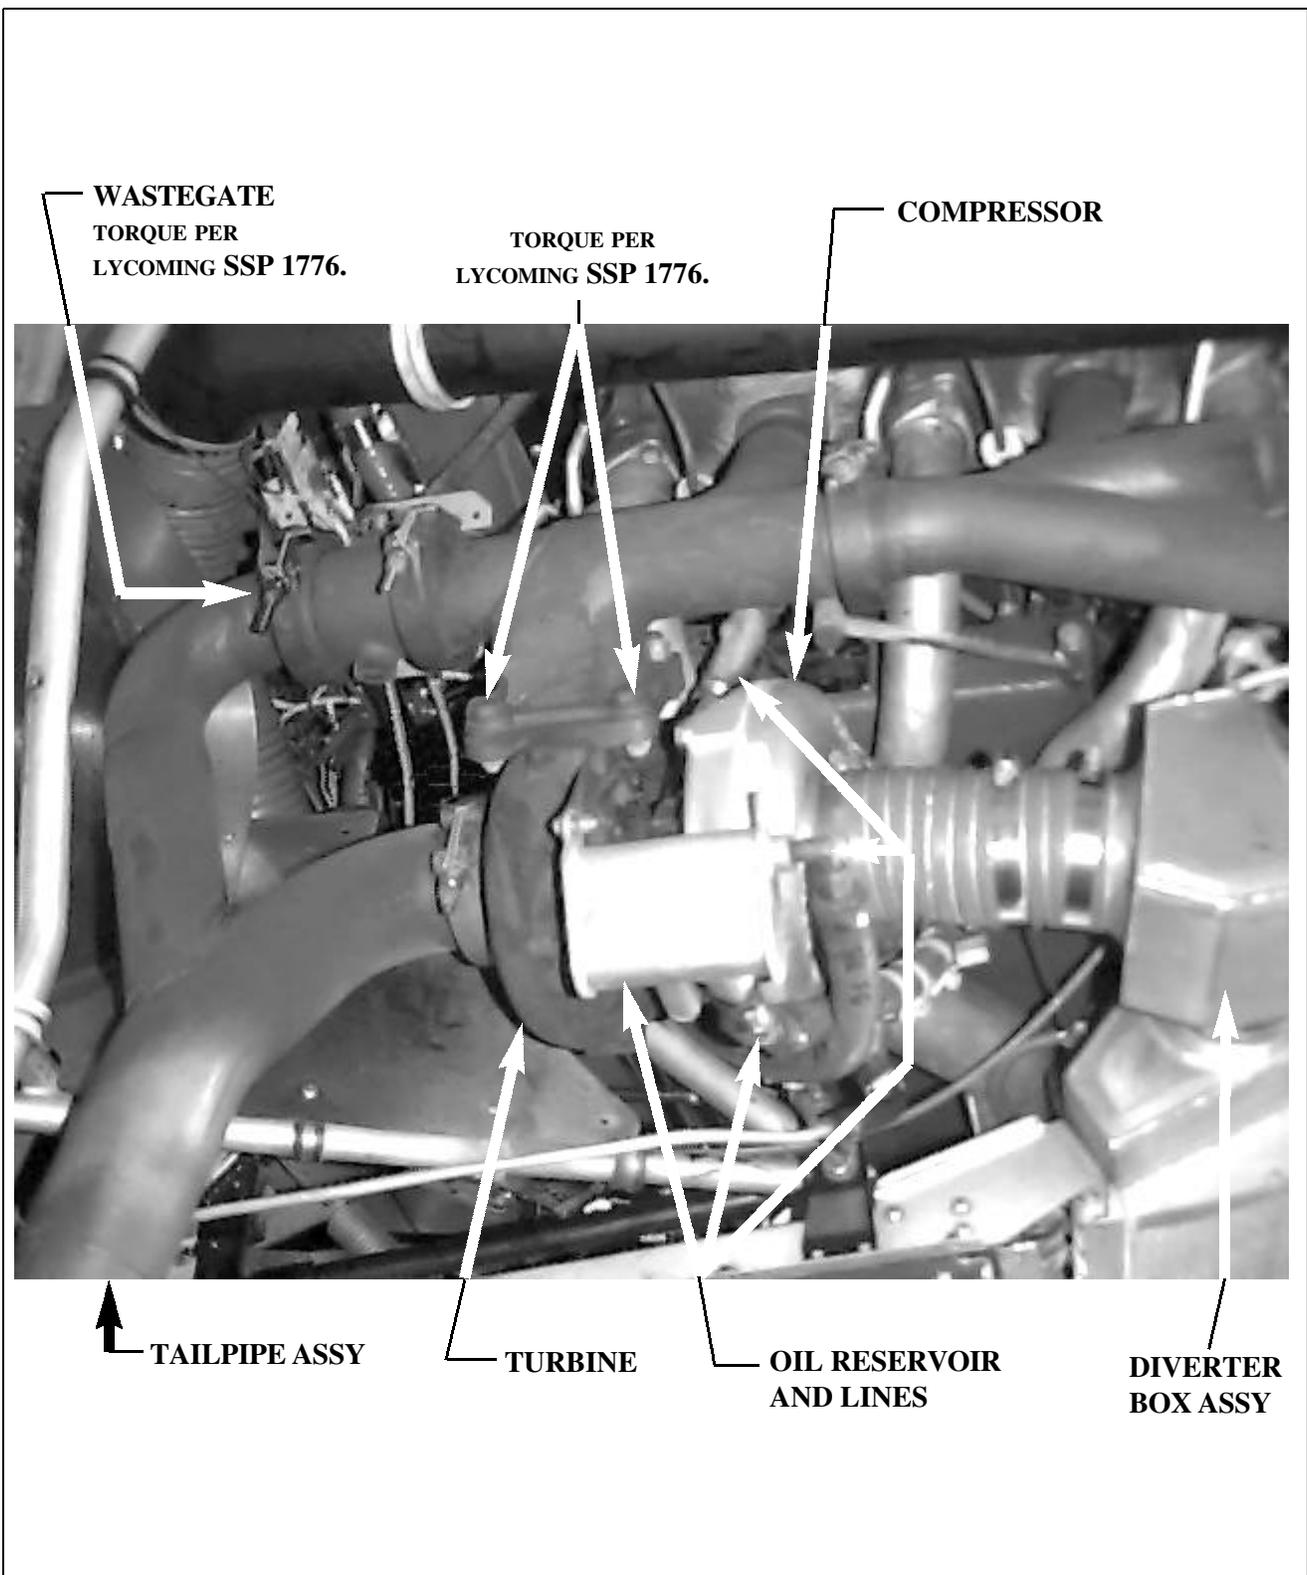

Figure 81-1. Turbocharger Installation
A. REMOVAL OF TURBOCHARGER. (Refer to Figure 81-1.)